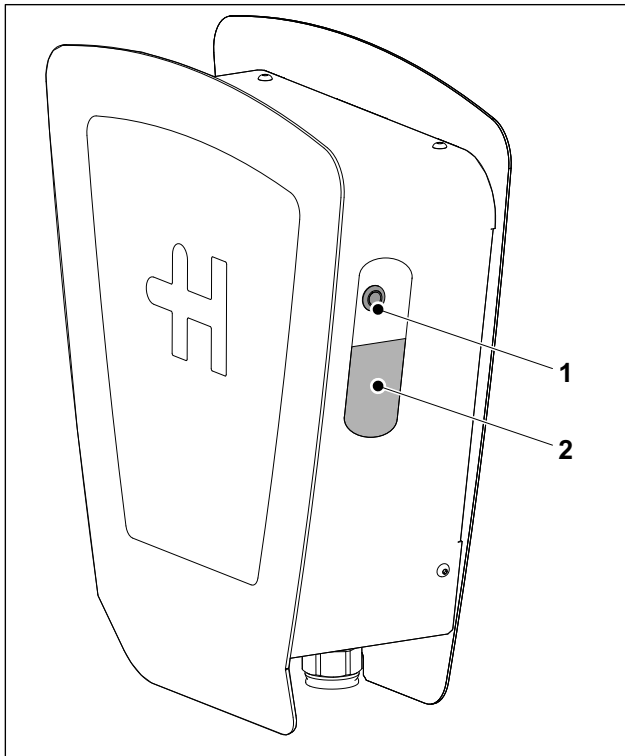

Fig. 1 Heidelberg Wallbox Home Eco
The charging process **cannot** be stopped with the button (Fig. 1/1). There are three ways of stopping the charging process:
If the Wallbox does not react after the charging cable has been plugged in or after pressing the button (Fig. 1/1), please check the building's power supply (circuit breakers, residual current circuit breaker).
- To reset the residual current circuit breaker, press the button (Fig. 1/1) for longer than 3 seconds. The LED flashes green.